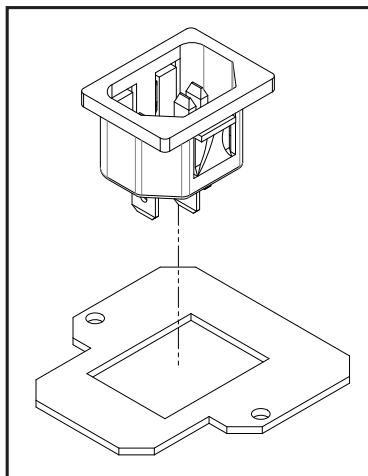

Figure 86: Electrical Adapter Plate
3. Press the IEC outlet into the adapter plate (included in the manual bag). Refer to Figure 86 for proper geometry and orientation. **Make sure tangs are completely seated of the plug will not engage fully.**